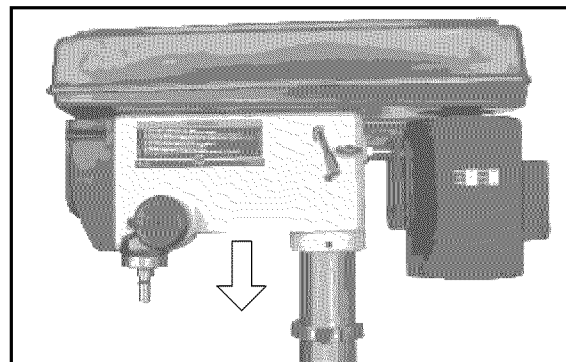

Figure 2
1. Place the drill press head onto the column as far as it will go (Figure 2). Align the drill press head with the base of the drill press.